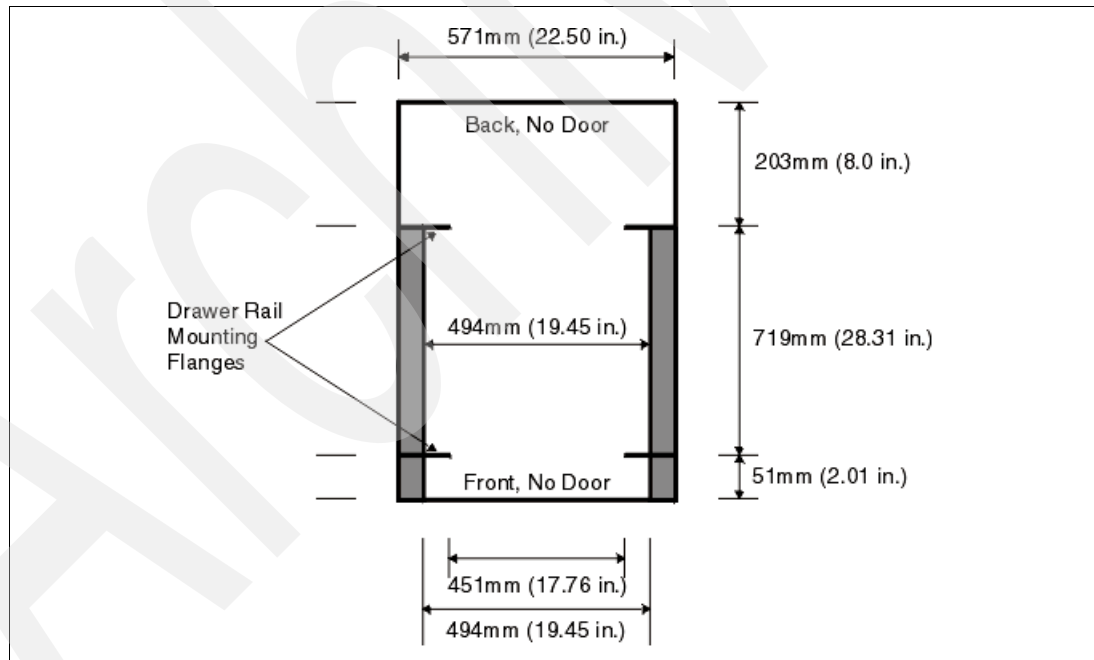

Figure 1-9 Top view of non-IBM rack specification dimensions
- ▶ The front rack opening must be 451 mm wide + 0.75 mm (17.75 in. + 0.03 in.), and the rail-mounting holes must be 465 mm + 0.8 mm (18.3 in. + 0.03 in.) apart on center (horizontal width between the vertical columns of holes on the two front-mounting flanges and on the two rear-mounting flanges). See Figure 1-9 for a top view showing the specification dimensions.